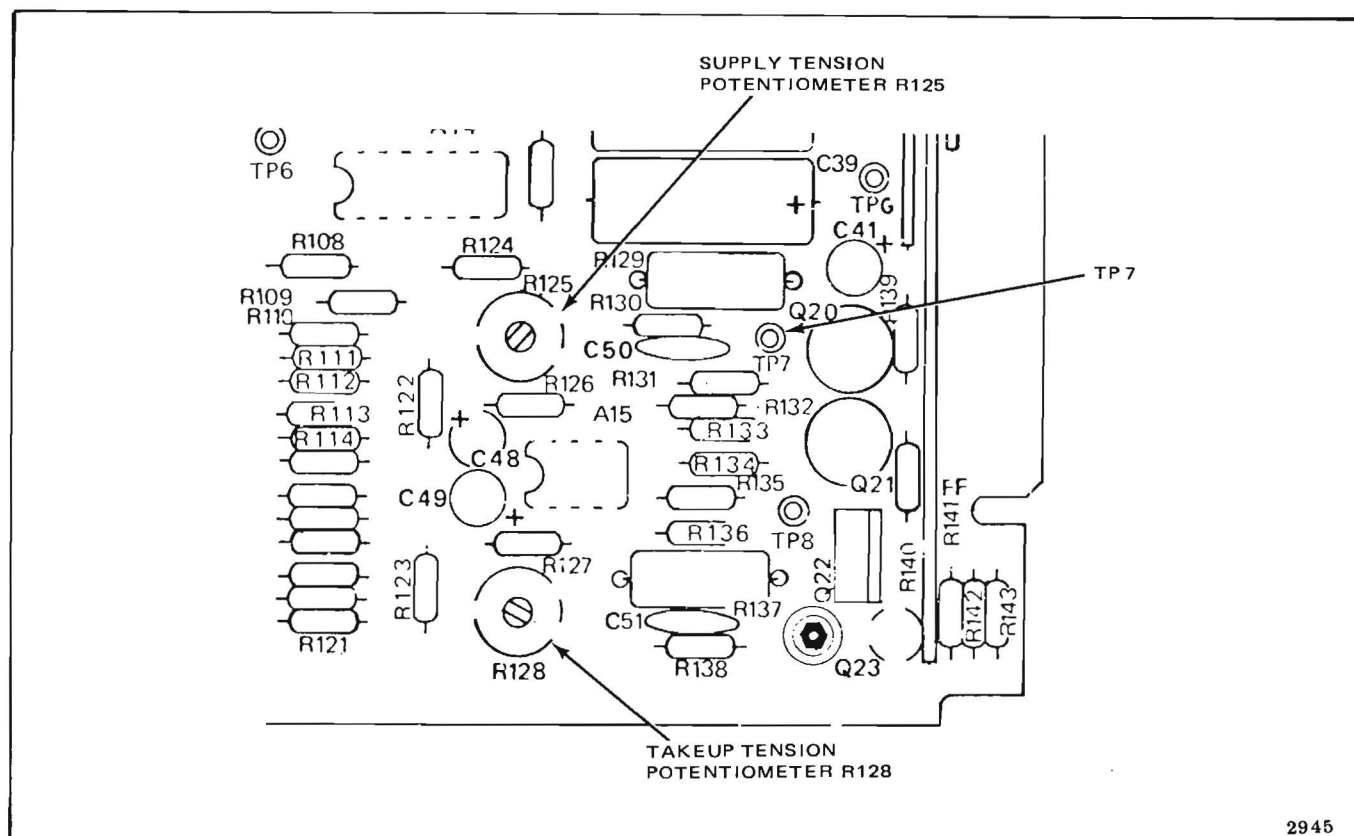

Figure 5-25. Tape Tension Adjustment Controls, PWA No. 9
2. With power off, place Reel Servo PWA No. 9 (Figure 5-25) on an extender board.